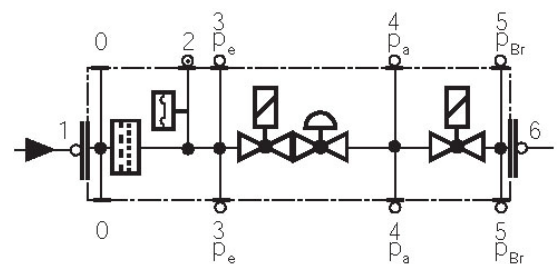

Fig. 31
- Change the filter if the pressure difference between pressure connection 1 and 2 (Fig. 31-Fig. 32)  $\Delta p > 10$  mbar.
- Change the filter if the pressure difference between pressure connection 1 and 2 (Fig. 31-Fig. 32) is twice as high compared to the last check.